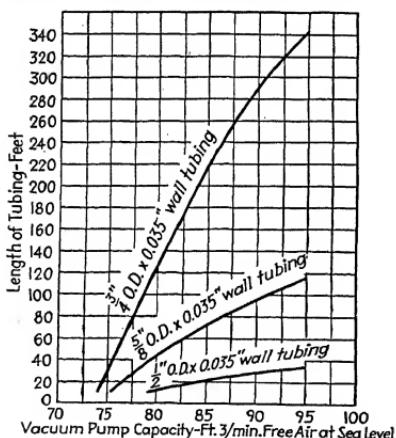

Fig. 85.—Chart showing requirements of system.
*Air System.*—The range of engine speeds and altitudes through which the gyropilot will operate will depend entirely on the air system installation. The vacuum pump pulls air from the gyropilot in order to maintain a reduced pressure (suction) in the equipment. The suction causes outside air to flow into the equipment through filters to operate the gyros, the air pick-offs, air relays, and air motor. A suction of 3.5 to 5.0 in. Hg is required to produce satisfactory operation of the equipment. Pumps supplied or recommended by Sperry will maintain this suction at 1,000 to 1,200 engine r.p.m. up to 5,000 ft., barometric altitude, and at engine cruising r.p.m. at the service ceiling of the airplane. To obtain these results, however, it is absolutely necessary that the drop in the system between the gyropilot and the vacuum pump be such as to require a suction of not more than 7 in. Hg at the vacuum pump. The curve chart of Fig. 85 shows the maximum